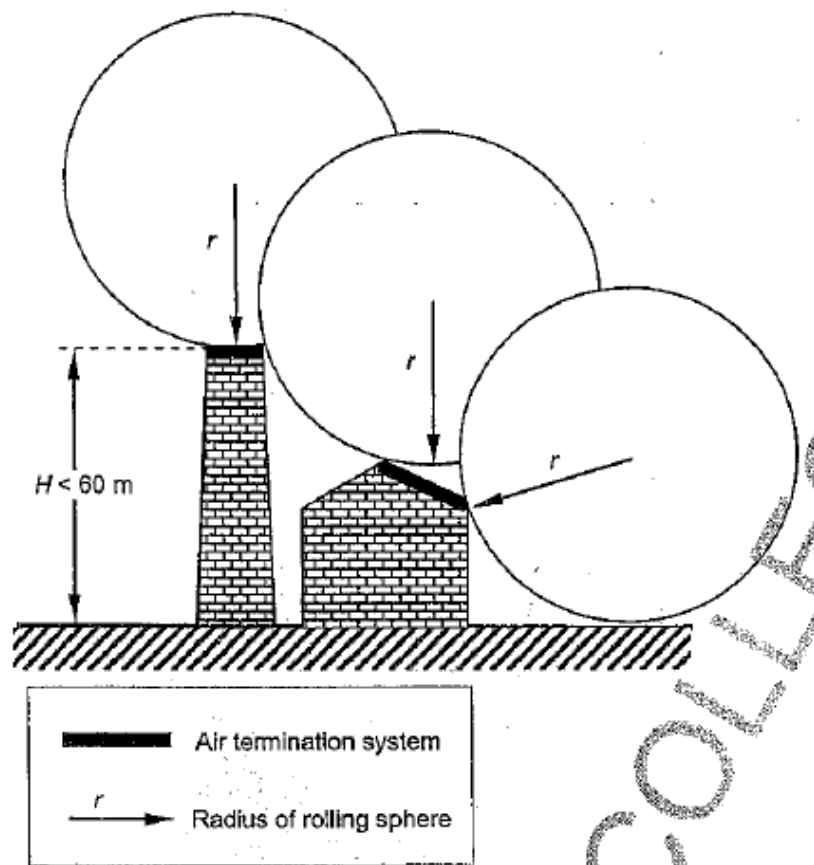

Figure 6
2. Rolling sphere method (Figure 6)